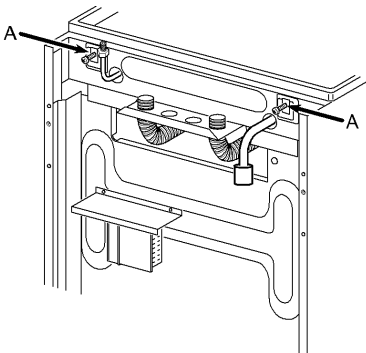
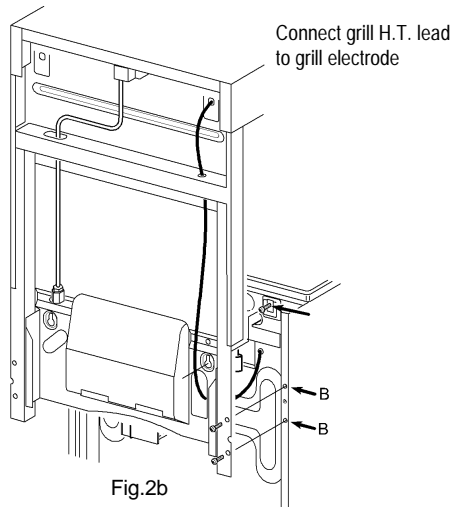

Fig.2a
Fig.2b
The two splashplate screws marked A (see Fig.2a) should be screwed into the back of the appliance about halfway in. Engage the keyhole slots in the splashback behind the two screws taking care not to trap the H.T. wire (see Fig. 2b).
Insert the four splashplate screws marked B (see Fig. 2b).
Tighten 6 off splashplate screws (see Fig.2b).
3. Draw a line 100mm from the front edge of the levelling feet (see Fig 2a) and remove appliance from its position. Mark off dimension 'B' (see Fig 3a) back from this line on the centre line of the bracket to locate the front edge of the lower bracket. Fix lower bracket (with two fixing holes) to the floor then measure the height from floor level to engagement edge on back of appliance, dimension 'C' of Fig. 3b.